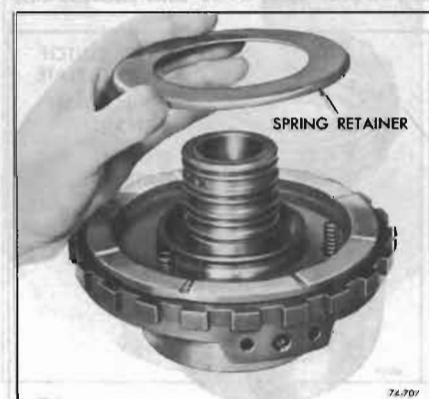

Figure 74-707
3. Remove spring retainer. See Figure 74-707. Remove three (3) clutch release springs. See Figure 74-708.